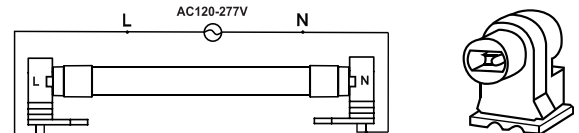

Figure 1a. - Double-Ended connection
STEP 7: These T8 LED lamps are designed for double ended wiring only (Figure 1a). When installing, confirm only the input end of the lamp is powered, and securely connected to the powered R17d lamp holders (120V-277V).
(Figure 1a. - Connexion à double extrémité)